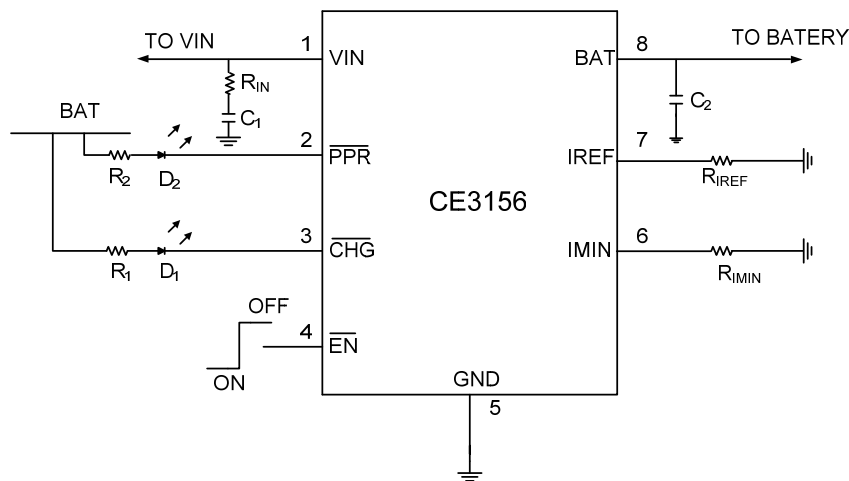
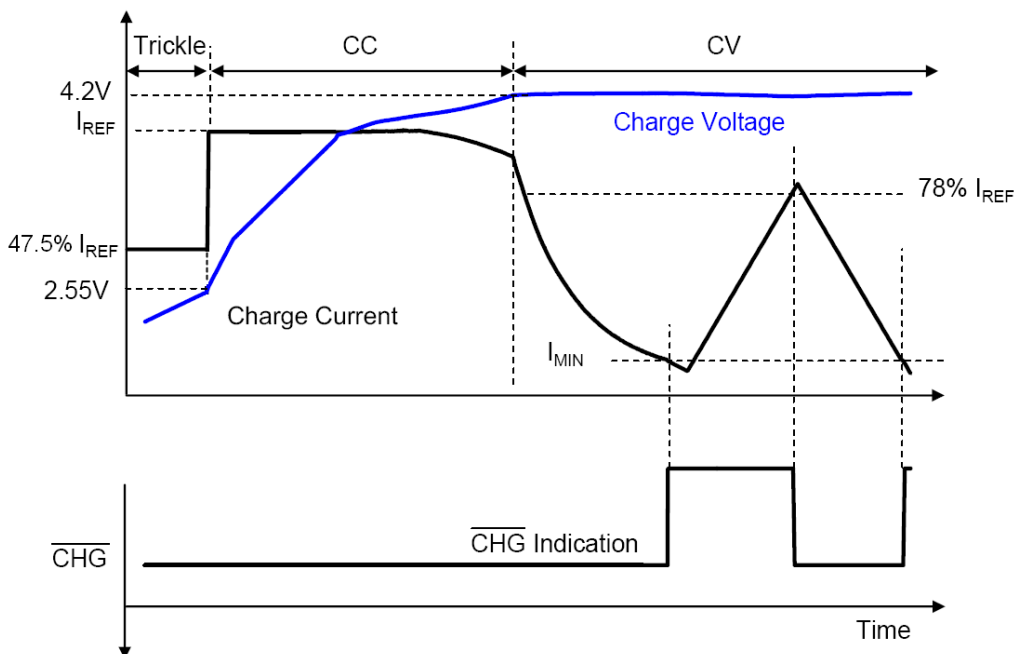

Figure1 Typical Application Circuit Interfacing to Indication LEDs
Figure3 Typical Charge Profile
COMPONENT DESCRIPTION FOR Figure1
The CE3156 charges a Li-Ion battery using a CC/CV profile. The constant current I_{REF} is set with the external resistor R_{IREF} (see Figure 1) and the constant voltage is fixed at 4.2V or 4.35V. If the battery voltage is below a typical 2.55V, or
4.2V or 4.35V. When the battery voltage reaches 4.2V or 4.35V, the charger enters a CV mode and regulates the battery voltage at 4.2V or 4.35V to fully charge the battery without the risk of over charge. Upon reaching an full-of-charge (FOC) current, the charger indicates the charge completion with the CHG pin, but the charger continues to output the 4.2V or 4.35V voltage. Figure 3 shows the typical charge waveforms after the power is on.
The FOC current level I_{MIN} is programmable with the external resistor R_{MIN} (see Figure 1). The CHG pin turns to low when the trickle charge starts and rises to high impedance at the FOC. After the FOC is reached, the charge current has to rise to typically 78% of I_{REF} for the CHG pin to turn on again, as shown in Figure 3. The current surge after FOC can be caused by a load connected to the battery.
The PPR pin is an open-drain output to indicate the presence of the AC adapter. Whenever the input voltage is higher than the POR threshold, the PPR pin turns on the internal open-drain MOSFET to indicate a logic low signal, independent on the EN pin input. When the internal open-drain FET is turned off, the \overline{PPR} pin leaks less than 20µA current. When turned on, the \overline{PPR} pin is able to sink at least 15mA current under all operating conditions. The \overline{PPR} pin can be used to drive an LED (see Figure 1) or to interface with a micro-processor.
IMIN is the end of charge current when $\overline{\text{CHG}}$ indicates a full of charge condition. All current out of the CE3156 BAT pin should be counted into IMIN, including load current and the indication LED currents. As illustrated in Figure 3, the CE3156 continues to supply current unless it is disabled by $\overline{\text{EN}}$ pulled high, regardless of the status of $\overline{\text{CHG}}$ pin. When charge current ever goes lower than IMIN, $\overline{\text{CHG}}$ pin stays high impedance until the charge current goes higher than 78% of IREF, which is another factor to consider in design of IREF, IREF should be high enough to so that 78% of IREF is higher than the